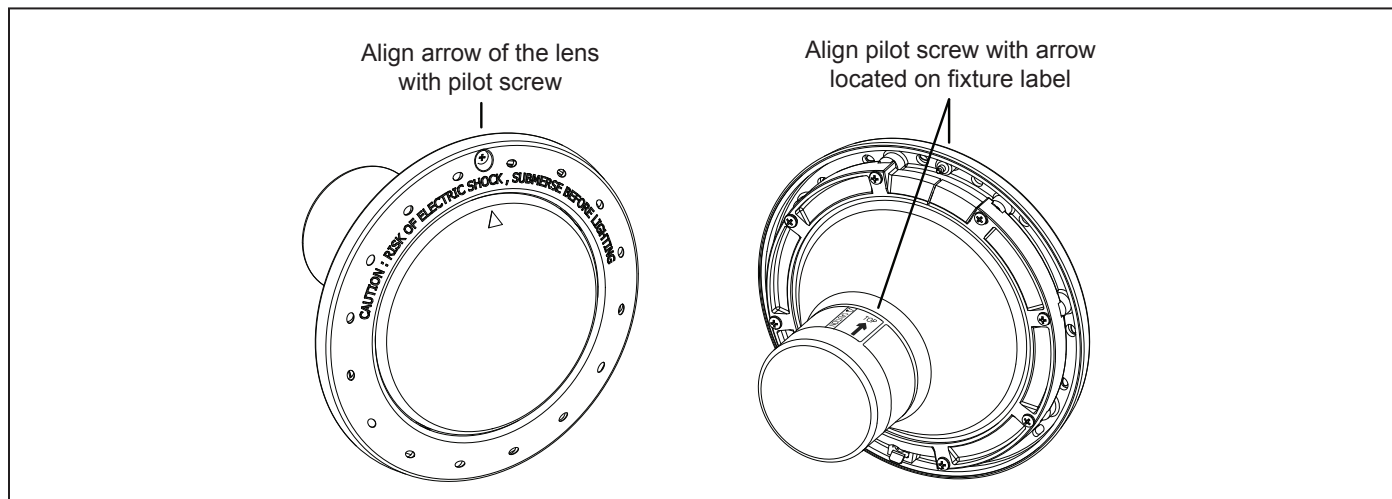

Figure 8. Alignment of the Lens, Face Ring, Housing and Clamps for Pool White Lights
- c. Position the lens and gasket on the fixture. Place the face ring and the top clamp over the lens and align the pilot screw with the small arrow mark on the face of the lens. Note that the small arrow mark on the face of the lens and the pilot screw of the face ring must be aligned with the arrow located on fixture label that reads, “Arrow on this label must line up with the pilot screw on the Face Ring”. See Figure 8.
- e. Spread the bottom clamp over the electrical cord and slide it onto the back of fixture to the top clamp. See Figure 8.
- f. Tighten the eight (8) Phillips head screws for pool light or the six (6) Phillips head screws for spa light in alternating cross-pattern. Torque screws to approximately 20 in-lbs. Do not over-tighten.
- a. Coil four (4) feet of cord around the fixture and place the light assembly into the niche.